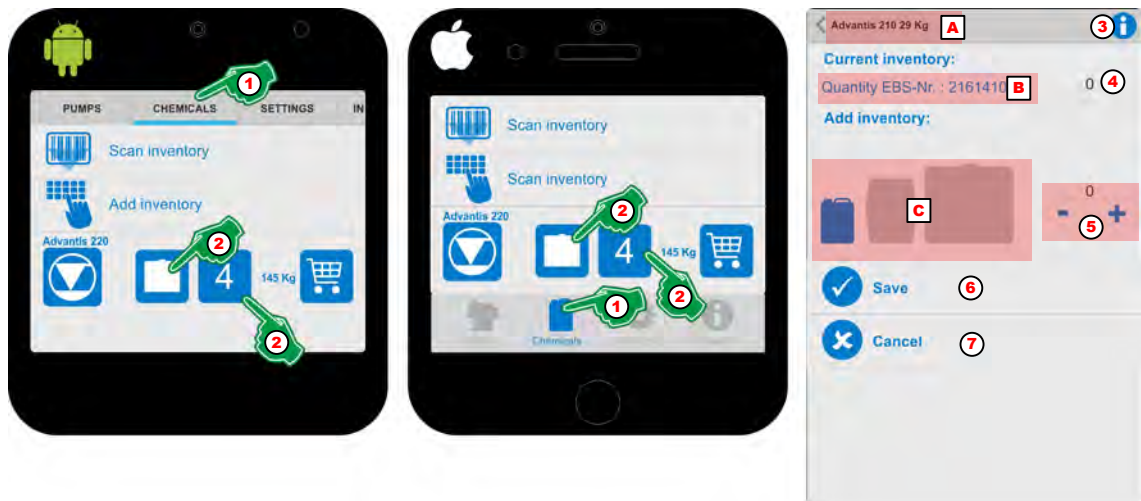

Fig. 39: Inventory management
1. Select Menu 'Chemicals' (Fig. 39, Pos. 1).
2. Select the symbol for the chemical packaging or quantity. Fig. 39, Pos. 2).
3. With the selection of the [Info]  Symbol (Fig. 39, Pos. 4), the display will be:
4. In addition to the dosing chemistry (Fig. 39, Pos. A) the EBS no. (order number) is displayed (Fig. 39, Pos. B). In addition to this display, the quantity of the chemical in stock must be entered (Fig. 39, Pos. 4) to enable correct warehouse management.
5. The container size is displayed as a blue symbol graphic (Fig. 39, Pos. C). To add a stock to a new delivery of chemical containers, the quantity must be set (Fig. 39, Pos. 5).
6. Press the [Save] button (Fig. 39, Pos. 6) to save the inputs.
7. Press the [Cancel] button (Fig. 39, Pos. 7) to cancel the inputs.